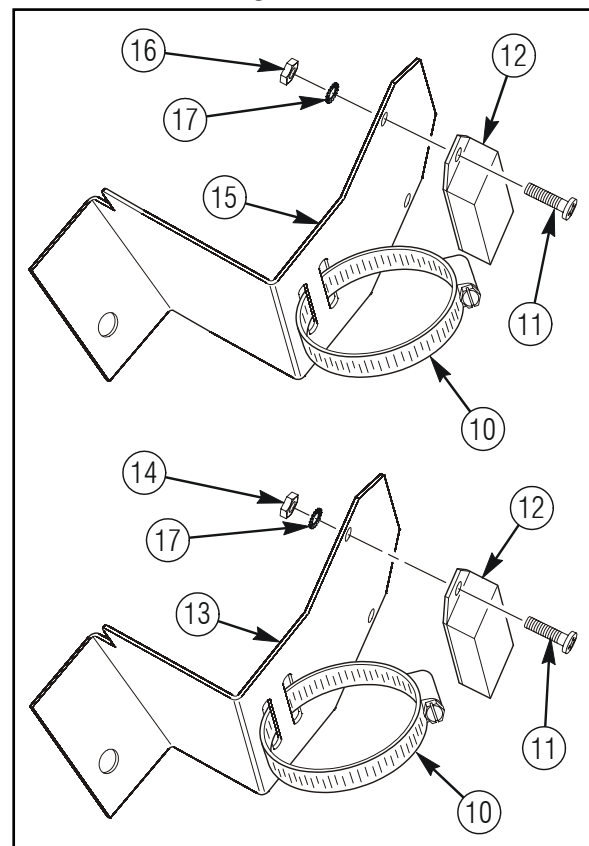

Figure 11c.
4. Remove two screws (11), locknuts (16), serrated washers (17), and fire sensor (12) from existing fire sensor bracket (15) as shown in figure 11c. Retain all parts.
5. Remove and retain existing clamp (10) from existing fire sensor bracket (15) and B-pillar support tube (5). Refer to figure 11c.
6. Install existing clamp (10) through 6435678-01M1 left fire sensor bracket (13), and around B-pillar support tube (5). Do not tighten clamp (10) at this time. Refer to figure 11c.
7. Install fire sensor (12) on left fire sensor bracket (13) with two existing screws (11), serrated washers (17), and locknuts (14) as shown in figure 11c. Tighten locknuts (14).